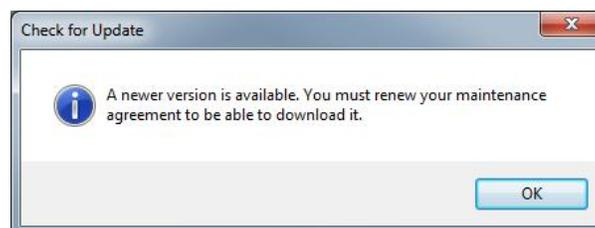

Figure 104: Version Available but no Maintenance Agreement Message
2. If a new version is found and you do not have a valid maintenance agreement, DatuSurvey™ will inform you that a newer version exists and it can be downloaded (Figure 104).